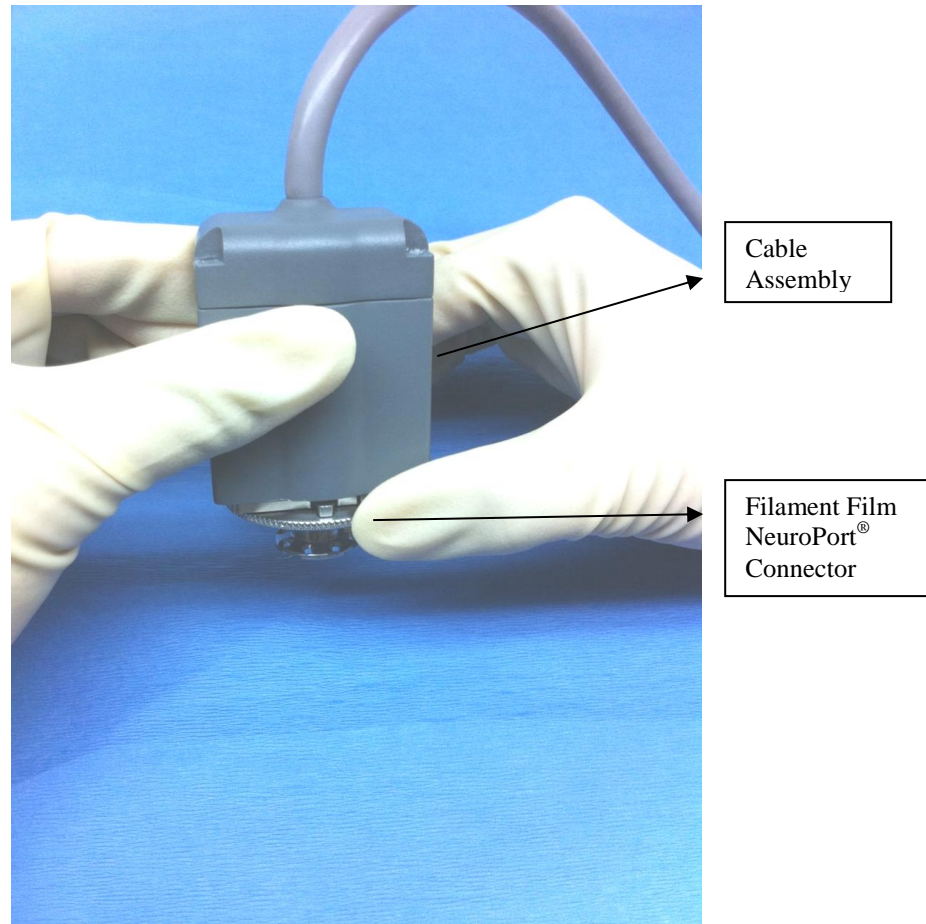

Figure 4: Pedestal-Connector Mating
- 4) While holding the patient cable with one hand, turn the collar of the Filament Film NeuroPort[®] Connector with the other hand until the collar screw engages. Continue to screw on the Filament Film NeuroPort[®] Connector while holding the head stage assembly to prevent forces from being applied to the pedestal as shown in Figure 4.